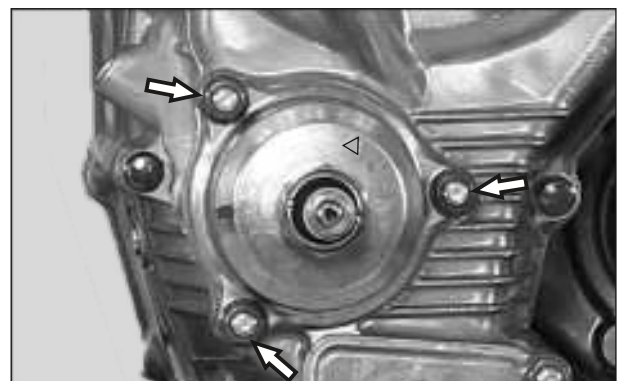

Fig. 2.19
- Loosen and remove 3 nos. Hexagonal flange nut M6 from the cap oil filter.(Fig. 2.19)
**Note:** During assembly of cover oil filter ensure the arrow mark should be face towards upside. (Fig.2.19)